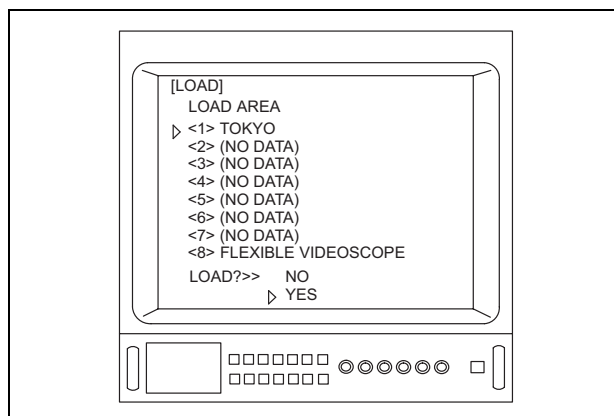

Figure 5.82
8. Depress the menu switches “◀” or “▶”, or the “↑/↓/←/→” key on the keyboard to move the arrow “▷” to “YES” (see Figure 5.82).